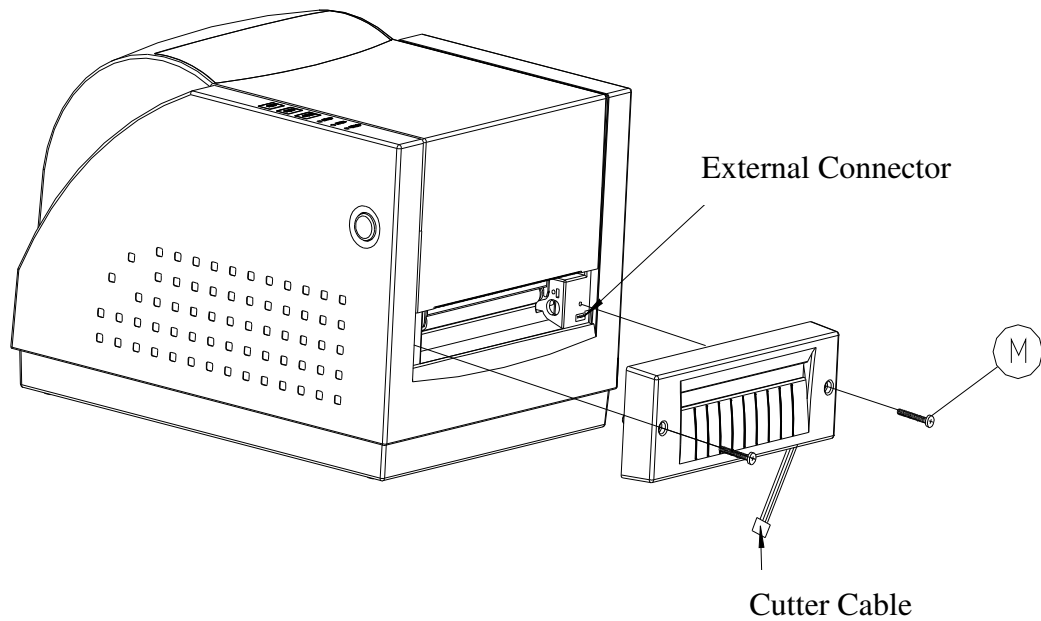

Figure 7-4
10. Secure two attached screws (M) for the cutter.
11. Plug the cutter cable into external connector shown in Figure 7-4.